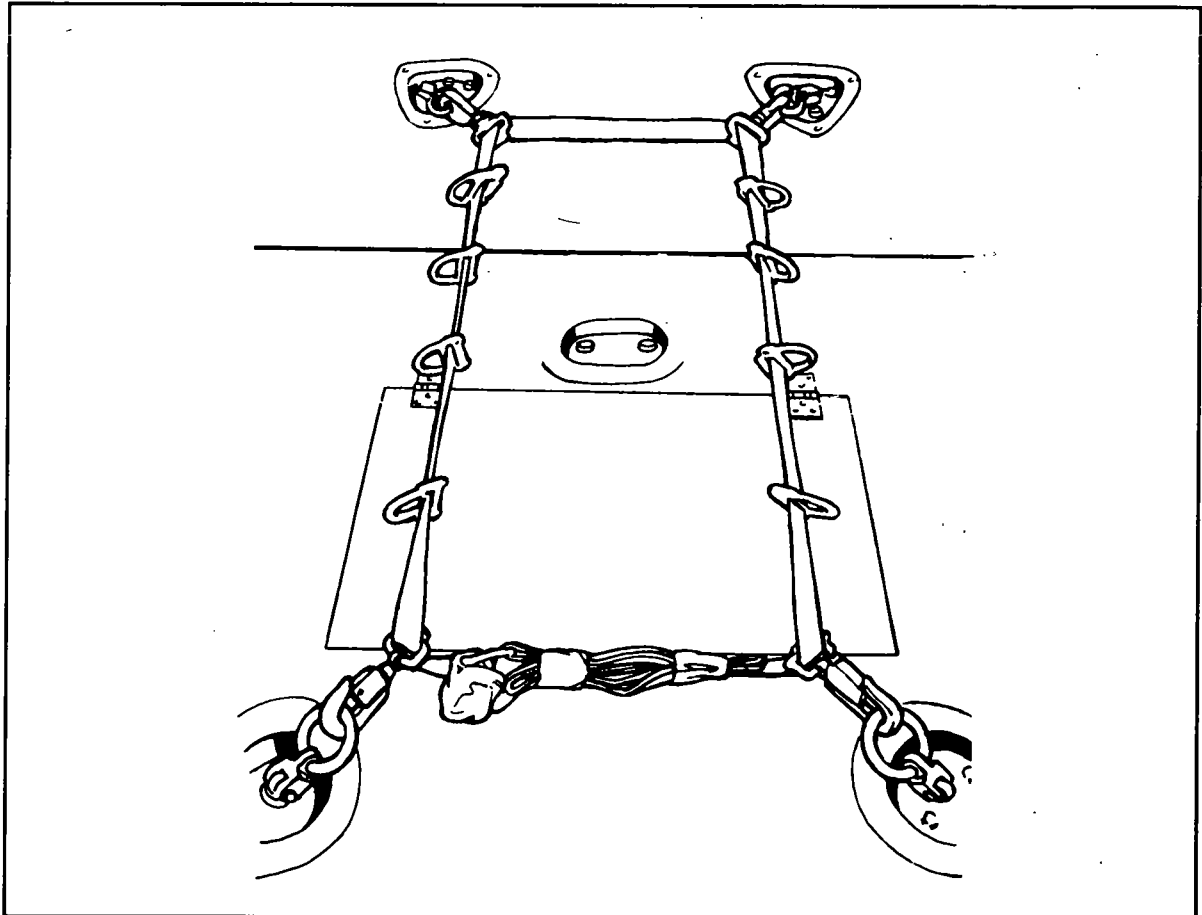

Figure 12-9. Modified anchor line secured to floor.
(1) Install four snap hooks and eight D-rings with cotton buffers on the anchor web loop, with the snap hooks and D-rings facing out in the following order: one snap hook, four D-rings; two snap hooks, four D-rings; and one snap hook (Figure 12-9).
(2) Insert about 30 inches of the web loop running end into the quick-fit adapter to secure the loop.
(3) Center the anchor line system on the cargo floor with the quick-fit adapter to the rear. Attach the snap hooks to tie-down fittings 3B, 3C,